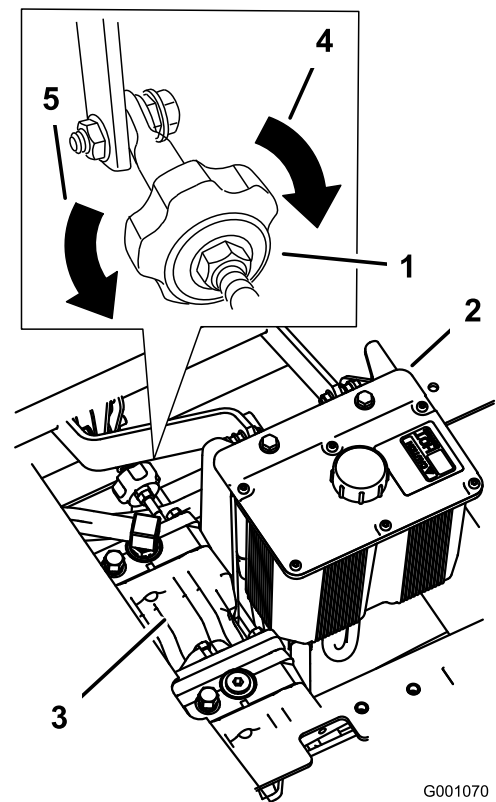

Figure 73
2. Adjust the pump rod length by rotating the knob, in the appropriate direction, until the wheel is still or slightly creeping in reverse (Figure 73).